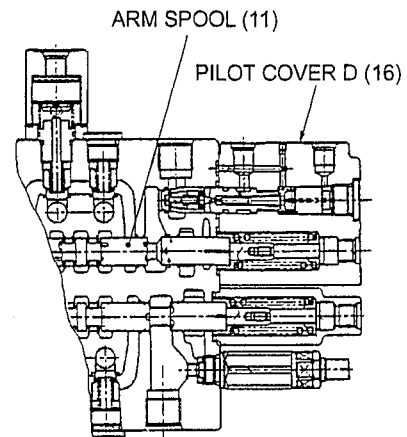

Fig. 33-122 Pulling out arm spool
b. Loosen hexagon nut (803). This nut is tightened by torque 98N•m (72lbf•ft).
(4) Pulling out arm spool (11) (See Fig. 33-122.)